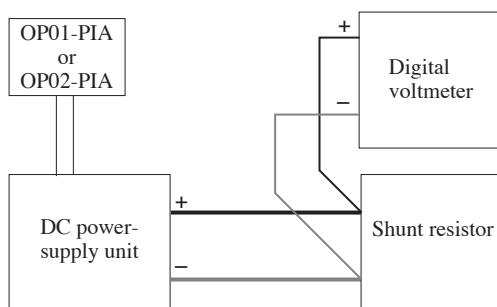

Fig. 3-14 Current calibration using the SH resistor
As shown in Fig. 3-14, short-circuit the output terminal of the DC power-supply unit using a shunt resistor compatible with the rated output. Then, connect a digital voltmeter between the terminals on the shunt resistor.
2. As shown in Fig. 3-14, connect the shunt resistor to the digital voltmeter.